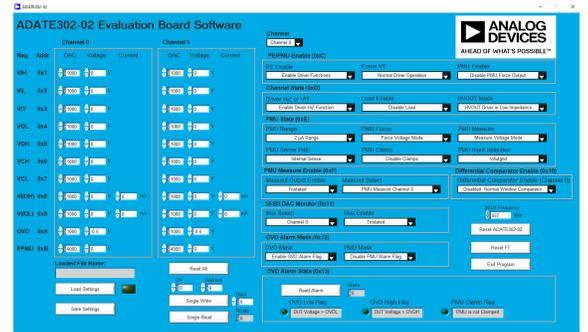
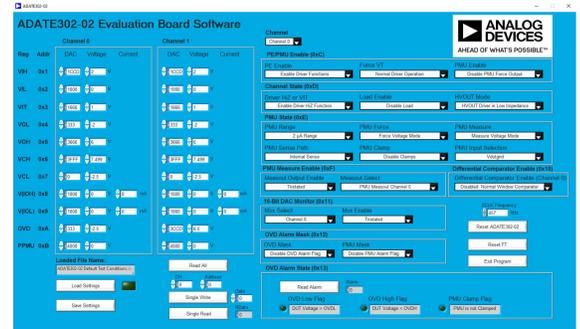
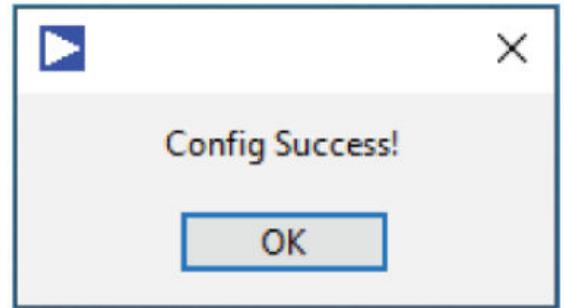

Figure 4. ADATE302-02 Main Window
Figure 7. User Interface Default Values
Figure 8. Configuration Success Prompt
- a. When the **ADATE302-02 Evaluation Board Software** opens, the main window opens if there are no issues (see Figure 4) and displays configuration success (see Figure 8). Otherwise, a command prompt indicating any error appears. Figure 5 shows examples of error prompt. Follow all the recommendations within the prompt window before attempting to start the software again.
- c. To verify the hardware communication, load the **ADATE302-02 Default Test Conditions.sbus** file. If the EV-ADATE302-02EBZ successfully communicates with the PC, the software user interface (see Figure 7) reflects the default values (see the ADATE302-02 data sheet for more information). If the user interface does not reflect the default values, perform the following steps:
6. Open the **ADATE302-02 Evaluation Board Software**, the command prompt displays configuration success (see Figure 8). Then, load the **ADATE302-02 Default Test Conditions.sbus** file to confirm if the user interface reflects the default values of the registers (see Figure 7).
2. When the search displays the **ADATE302-02 Evaluation Board Software**, select it. The main **ADATE302-02 Evaluation Board Software** window opens as shown in Figure 4. Load the **ADATE302-02_default.sbus** file after startup.
- ▶ The **Reset FT** and clock speed controls are located in the lower right of the GUI (see Figure 4).